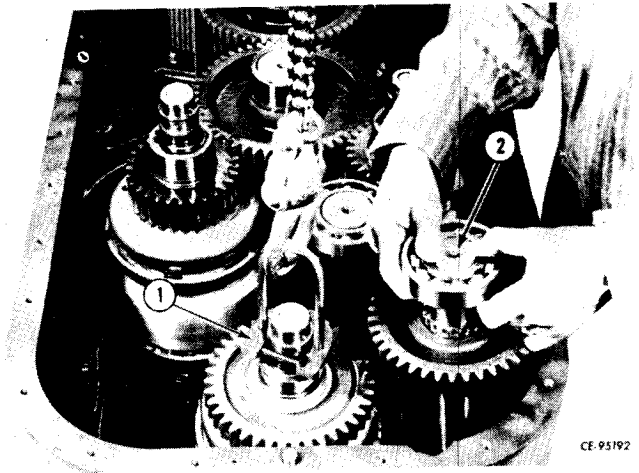

Figure 4-64
Attach lifting tool to forward and reverse clutch pack (1, Fig. 4-64). Lower clutch pack into housing while installing the reverse idler shaft (2) at the same time.